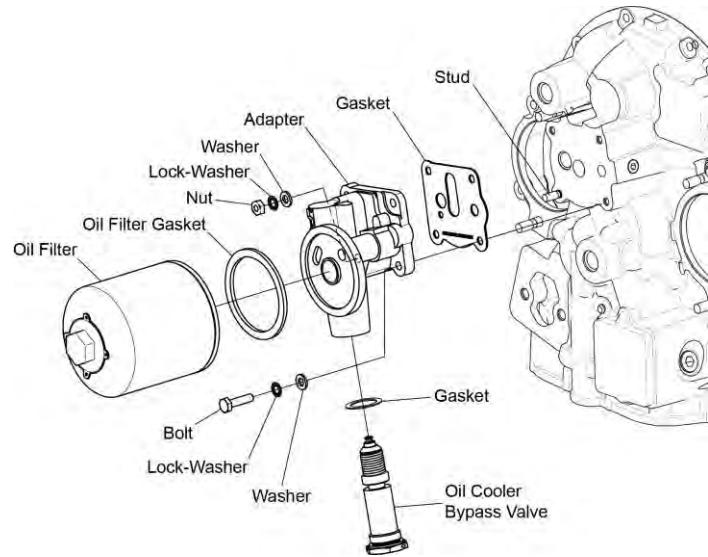

Figure 8
- B. Remove the hardware fasteners (nut, bolts, washers, and lock washers) from the oil filter base (Figure 8). Discard the lock washers.
- C. Remove the oil filter base (Figure 8).
- A. Mount the oil filter base with a new gasket on the mounting pad where shown in Figure 8 with three bolts with flat washers and new lock washers.